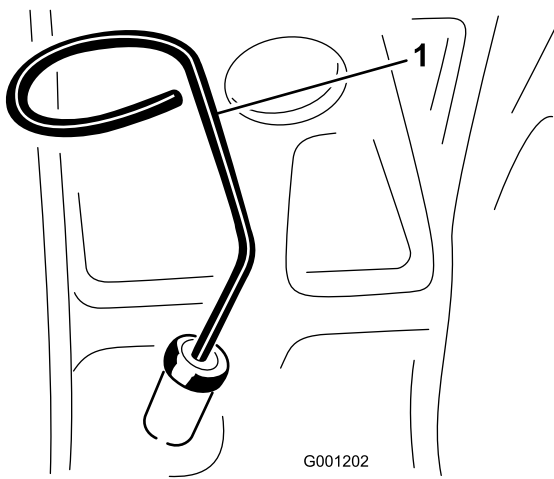

Figure 22
3. Remove the dipstick (Figure 22), wipe it clean, and install the dipstick.